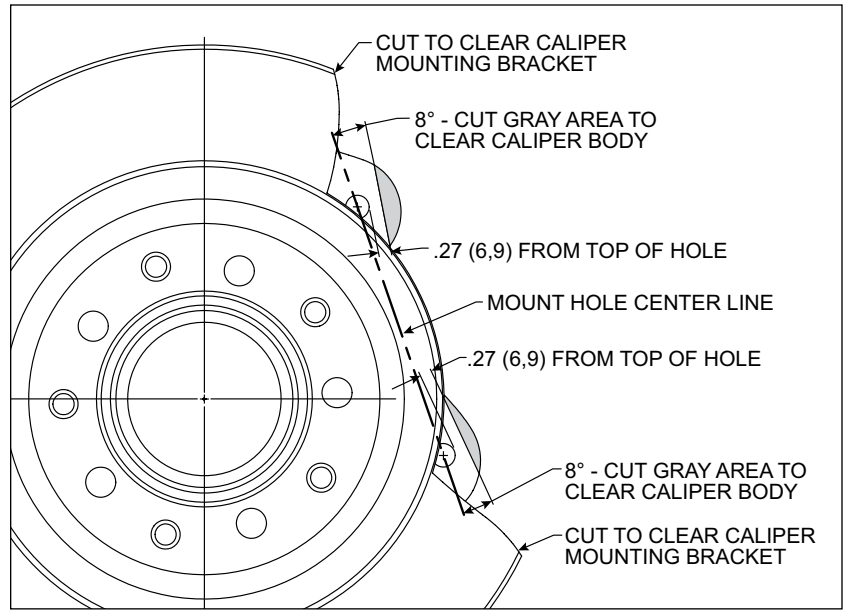

Figure 3. Dust Shield, Mounting Tab Modifications
•The rear backing plate/dust shield and OE caliper mounting tabs (gray area) needs to be modified as shown in Figure 3 to clear the new Wilwood caliper (6) and caliper mounting bracket (1). **NOTE:** It is recommended that the backing plate be removed before modification, and the modifications be performed by a qualified machine shop. Using the bracket as a template, cut the dust shield as shown in Figure 3 to provide sufficient clearance. Next, cut the OE mounting tabs to clear the new caliper body as shown in Figure 3. Do not cut off more material than is needed to clear the caliper body.